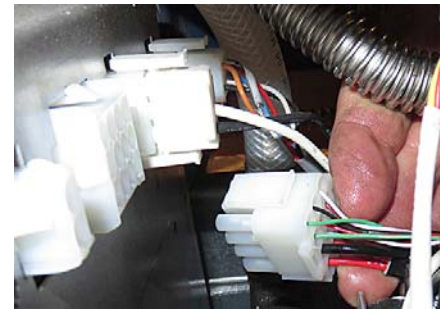

Figure 43
46. Connect the 8076105 12-pin connector to the rear of the FIB (ATO) box (see Figure 43).